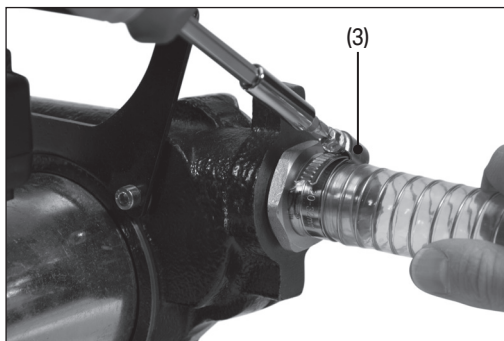

Fig. 4
- d. Ensure that the hose clamps (3) at both ends of the inlet hose are tightly secured; turn the clamp screws clockwise to tighten if necessary (Fig. 4).
- a. Ensure that each end of the outlet hose (D) is clean and fitted with an O-ring (D2) seal.